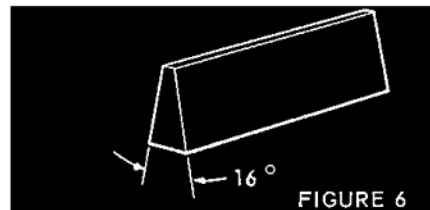

FIGURE 6
Step 11. Next, make a wedge shaped piece of wood to join the panels together at the center. The angle of the wedge, 16 degrees, determines the dihedral, which is 8 degrees for each panel. Fig. 6. If you're lucky, your dealer may have a piece of trailing edge stock which fits the requirement.